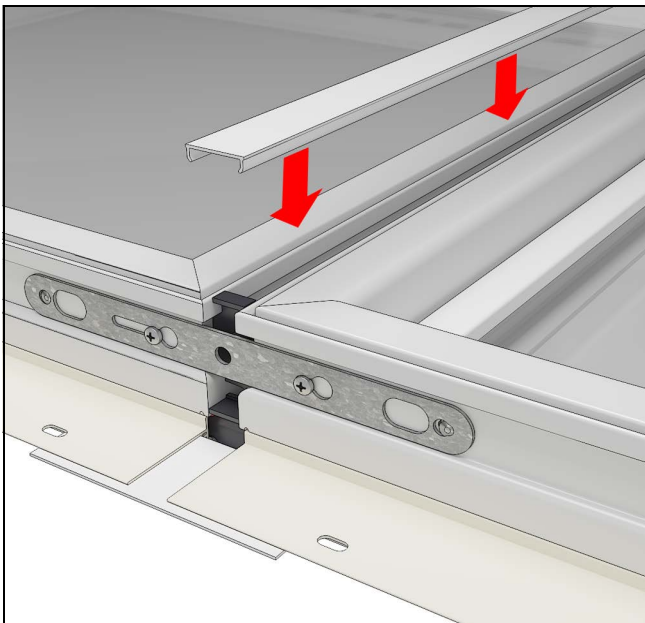

Figure 16
6. Flip assembly over so that the **interior** side is up. Install the interior mull cover. These should be flush with the interior edge of the accessory kerf to allow for accessory application. You may have to seat the cover with a rubber mallet or wood block and hammer. See Figure 16.